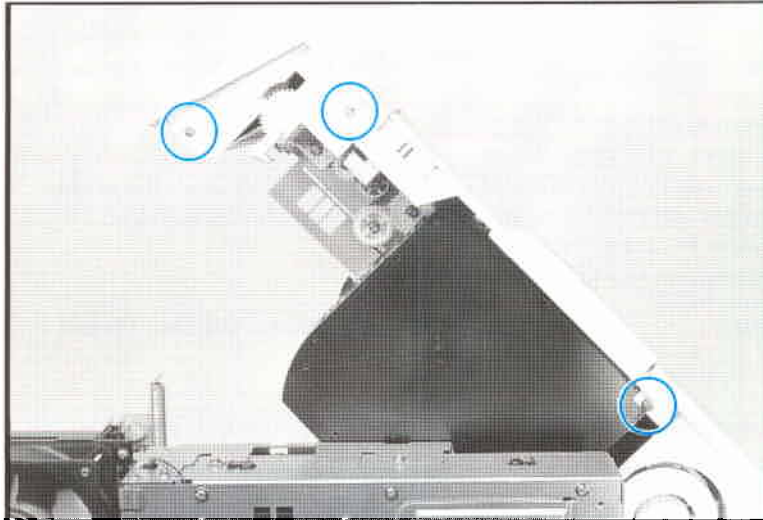

Figure 6-12      Top Cover Screws (2)
4. From the right side of the printer, remove (3) screws shown in Figure 6-12.